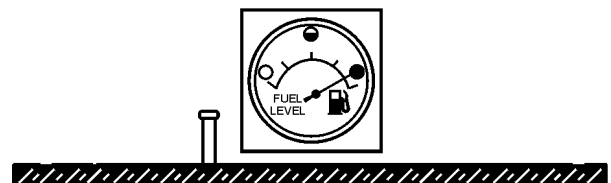

Figure 35. Full Fuel Tank
3. **NEVER overfill fuel tank** – It is important to read the fuel gauge when filling trailer fuel tank. **DO NOT** wait for fuel to rise in filler neck (See Figure 35).